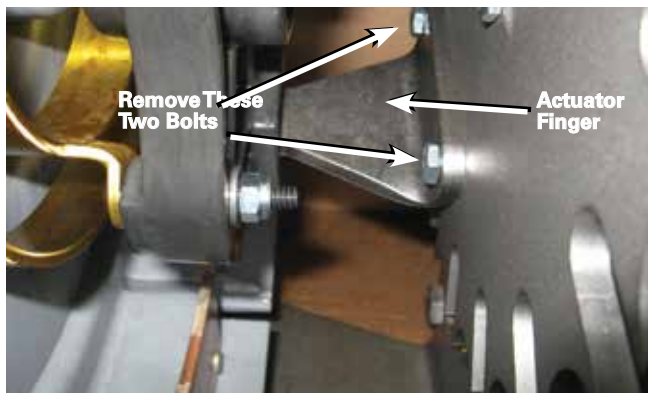

Figure 132. Actuator finger.
- Remove the two bolts that mount the actuator finger with a 7/16" socket wrench. Remove the actuator finger. Refer to Figure 132.